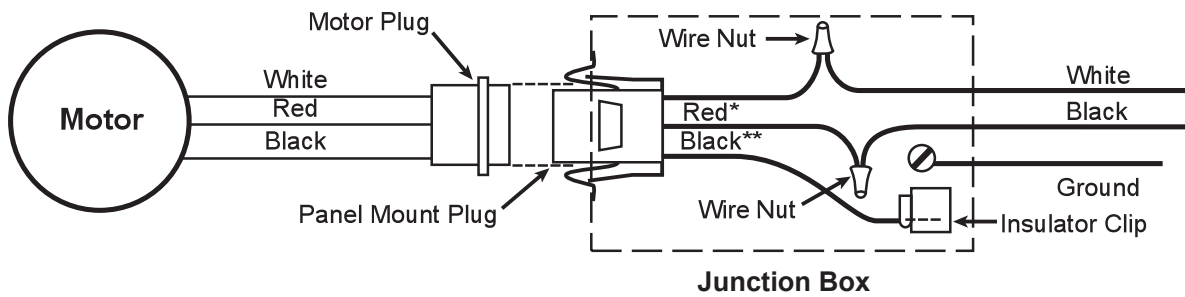

FIGURE 7: INTERNAL ELECTRICAL CONNECTIONS, TWO SPEED MOTORS
*\* For low speed insulate black lead as shown on Figure 7.*
*Note: On Model C16S/H, when using a variable speed control, wire to the high (H) setting only. Make all of the necessary connections by using two wire nuts. A separate ground wire must be connected to the grounding screw. Reinstall the cover of grounding screw the junction box.*